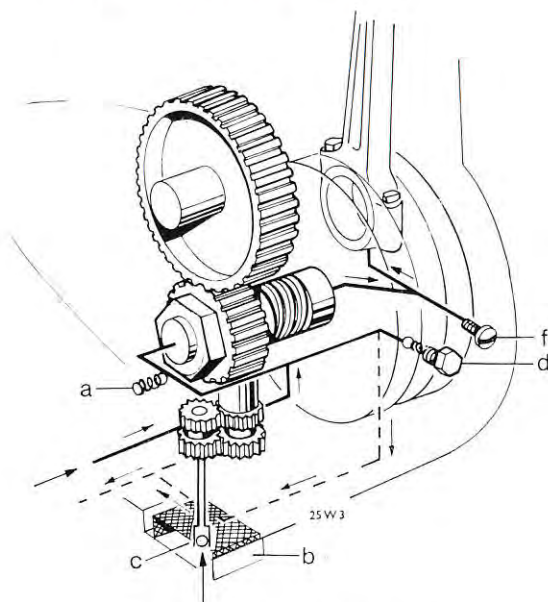

Fig. 12. Lubrication system.
The lubrication system is of the dry sump type and is operated by a double gear pump situated in the bottom of the crankcase on the right-hand side (see Fig. 12). The oil tank capacity is four pints and oil is drawn from the tank to the supply pump (top set of gears). It is then pumped past the non-return valve (A), and along the hollow mainshaft to the big-end.
Remove the oil tank and crankcase filters for cleaning at regular intervals (see "Routine Lubrication", page 36) and this can be carried out in conjunction with the change of oil. Wash thoroughly in gasoline and make sure that all the gasoline has evaporated before replacing. Refill the tank with the correct grade of oil. Access to the crankcase filter is gained after removal of the undershield. This is secured by 2 bolts with captive nuts at the front and a single bolt and nut to a 'P' clip at the rear. The crankcase filter is built-in with the sump (b Fig. 12) which is released following removal of four self locking nuts. They must always be used at this point and replaced when worn. The oil pump should not be disturbed unnecessarily as it is most reliable and unlikely to give trouble.
When the crankcase filter is removed for cleaning, it is a good opportunity to check the ball valve (C) Fig. 12, carried in the pump suction pipe. The ball must be free on its seating and this can be verified by inserting a piece of wire into the valve orifice. If the ball adheres to its seating, there will not be a return flow of oil to the tank. Alternatively, if the crankcase contains an excessive quantity of oil after, say an overnight stop, this may be due to the ball not seating properly caused by a particle of foreign matter, so allowing oil to pass through the pump to the crankcase.